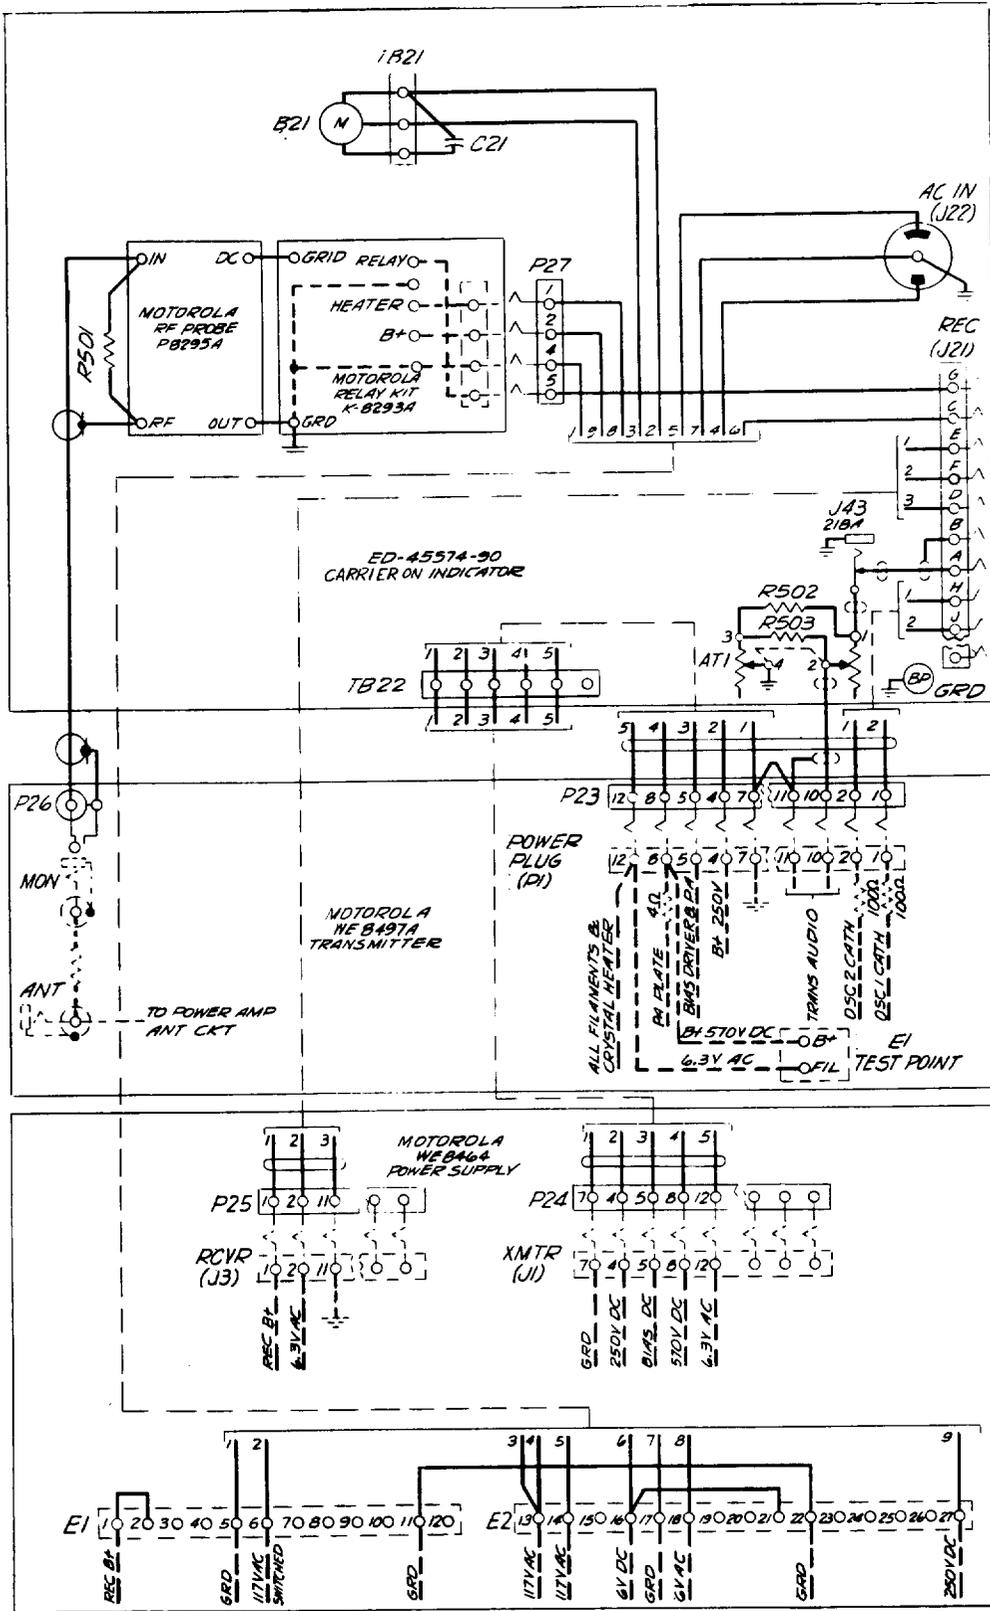

Fig. 1 - EC-T1 Radio Transmitter Circuit
2.01 The EC-T1 radio transmitter is a phase modulated, crystal controlled transmitter designed to operate in the frequency range of 152 to 174 megacycles. In this application it is intended for use primarily in the range of 152 to 162 megacycles. Circuit arrangements of this unit are shown in Fig. 1.